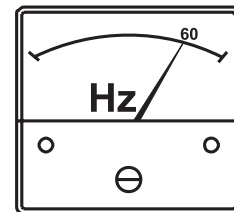

Figure 47. Frequency Meter
3. The generator's frequency meter (Figure 47) should be displaying the 60 cycle output frequency in **HERTZ**.